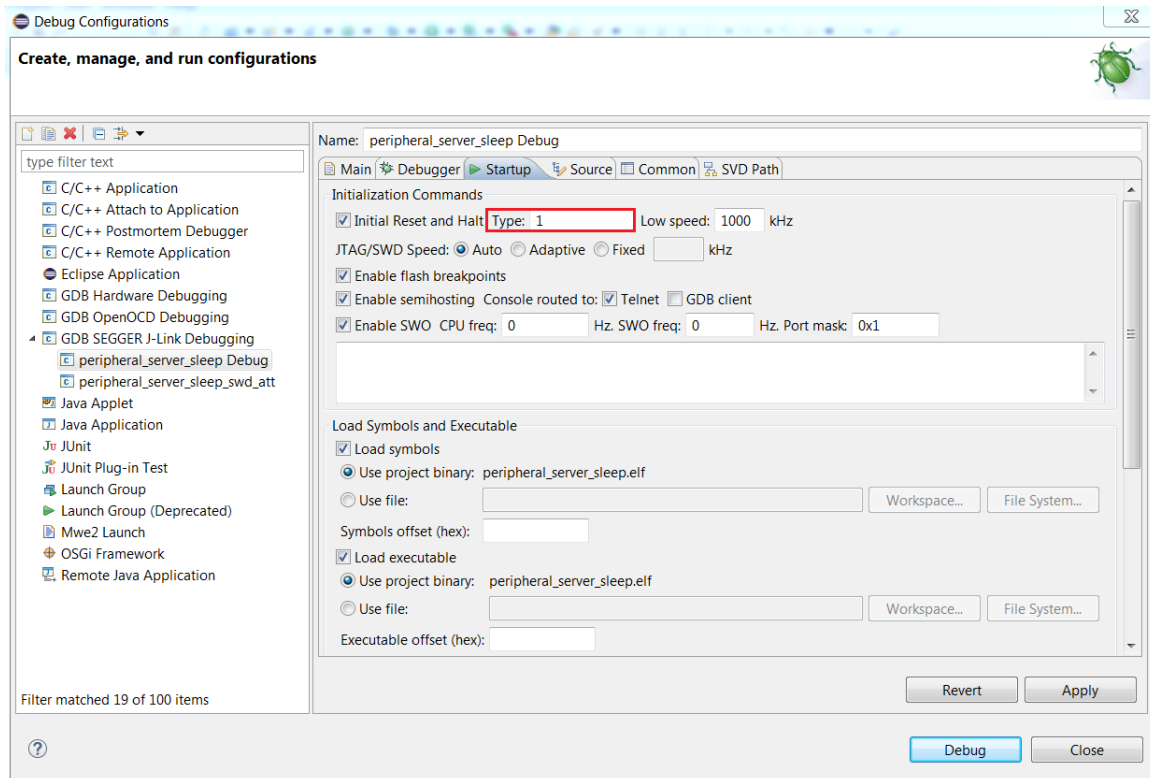
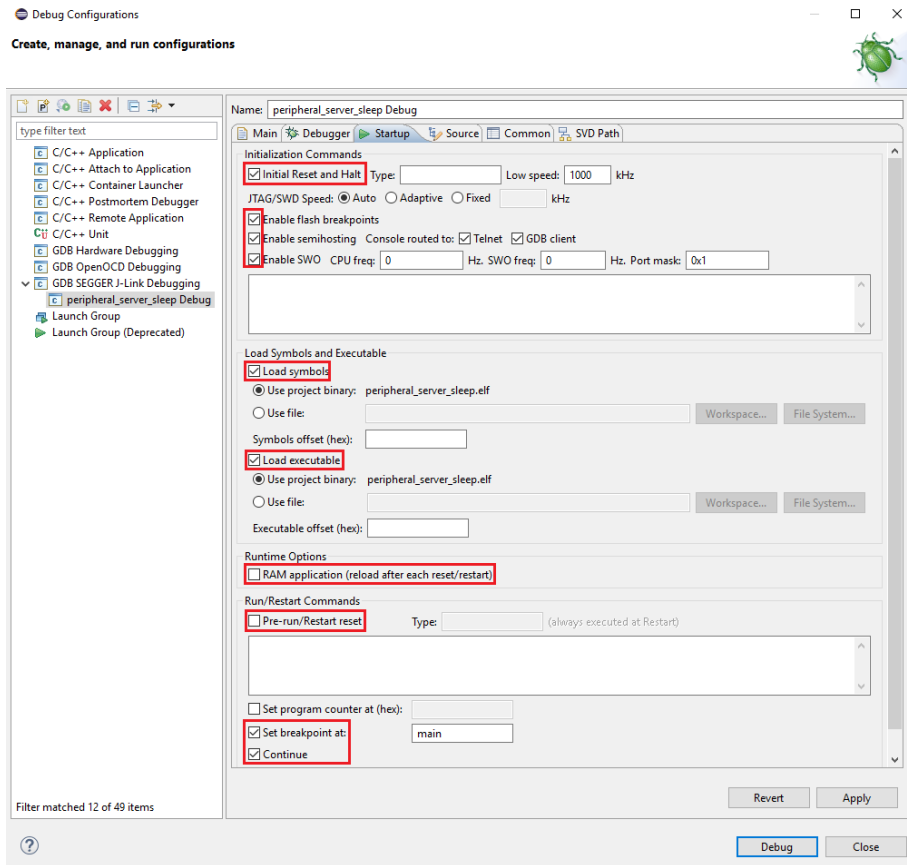

Figure 46. Setting Reset Type in the Debug Configuration Session
Figure 47. Startup Tab: Debug Session that Initiates Restart
- ii. Adjust the displayed values for your configuration and click on **Apply** (see Figure 46, and Figure 47 on page 41).
NOTE: If you are having trouble downloading firmware to the device, in addition to using DIO12, you can also perform the software recovery by setting the **Reset Type** to 1 in the **Debug** session configuration (see Figure 46). The default **Reset Type** is 0, which only resets the Arm Cortex-M3 core while leaving the device/peripherals in a state where J-Link can't reconnect. Setting the **Reset Type** to 1 ensures that not only is the Arm Cortex-M3 core reset, but so are all the peripherals. If this does not work, see Section 7.4.1, "Downloading Firmware in Sleep Mode" on page 45.